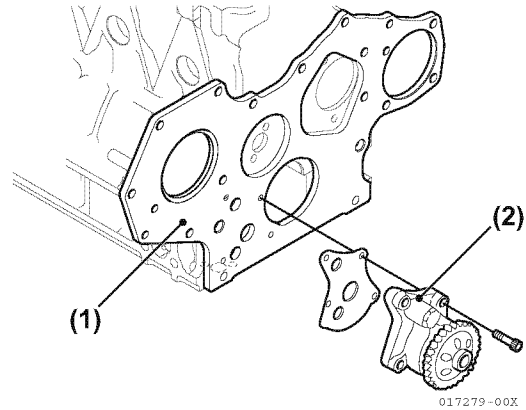

Figure 5-47
41. Remove the lubricating oil pump from the gear case flange (Figure 5-47).